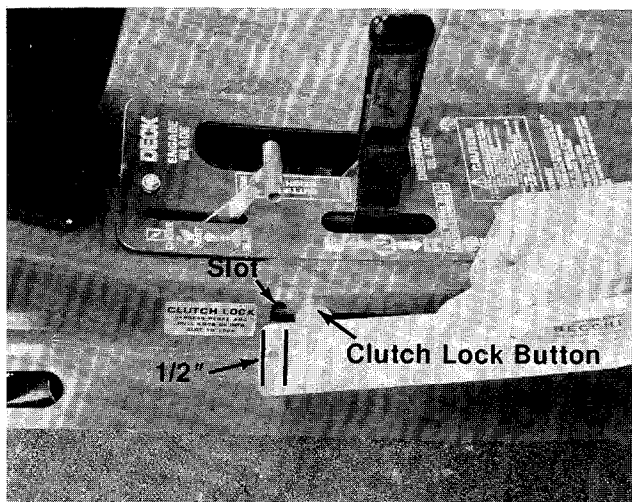

FIGURE 17.
1. With the engine off, release the clutch lock. See figure 17.
2. There should be $\frac{1}{2}$ " of space between the end of slot and clutch lock button. See figure 17.